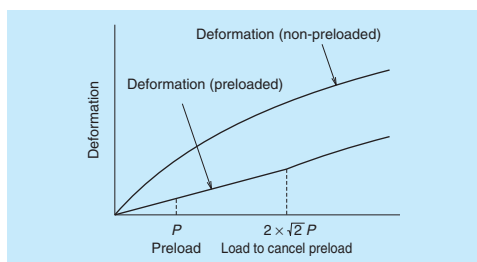

Fig. 3.2 Elastic deformation
- In general, the load range of ball guide system in which the preload is effective, is about 2.8 times of the preload (**Fig.3.2**). For roller guide system, it becomes about 2.2 times of the preload.